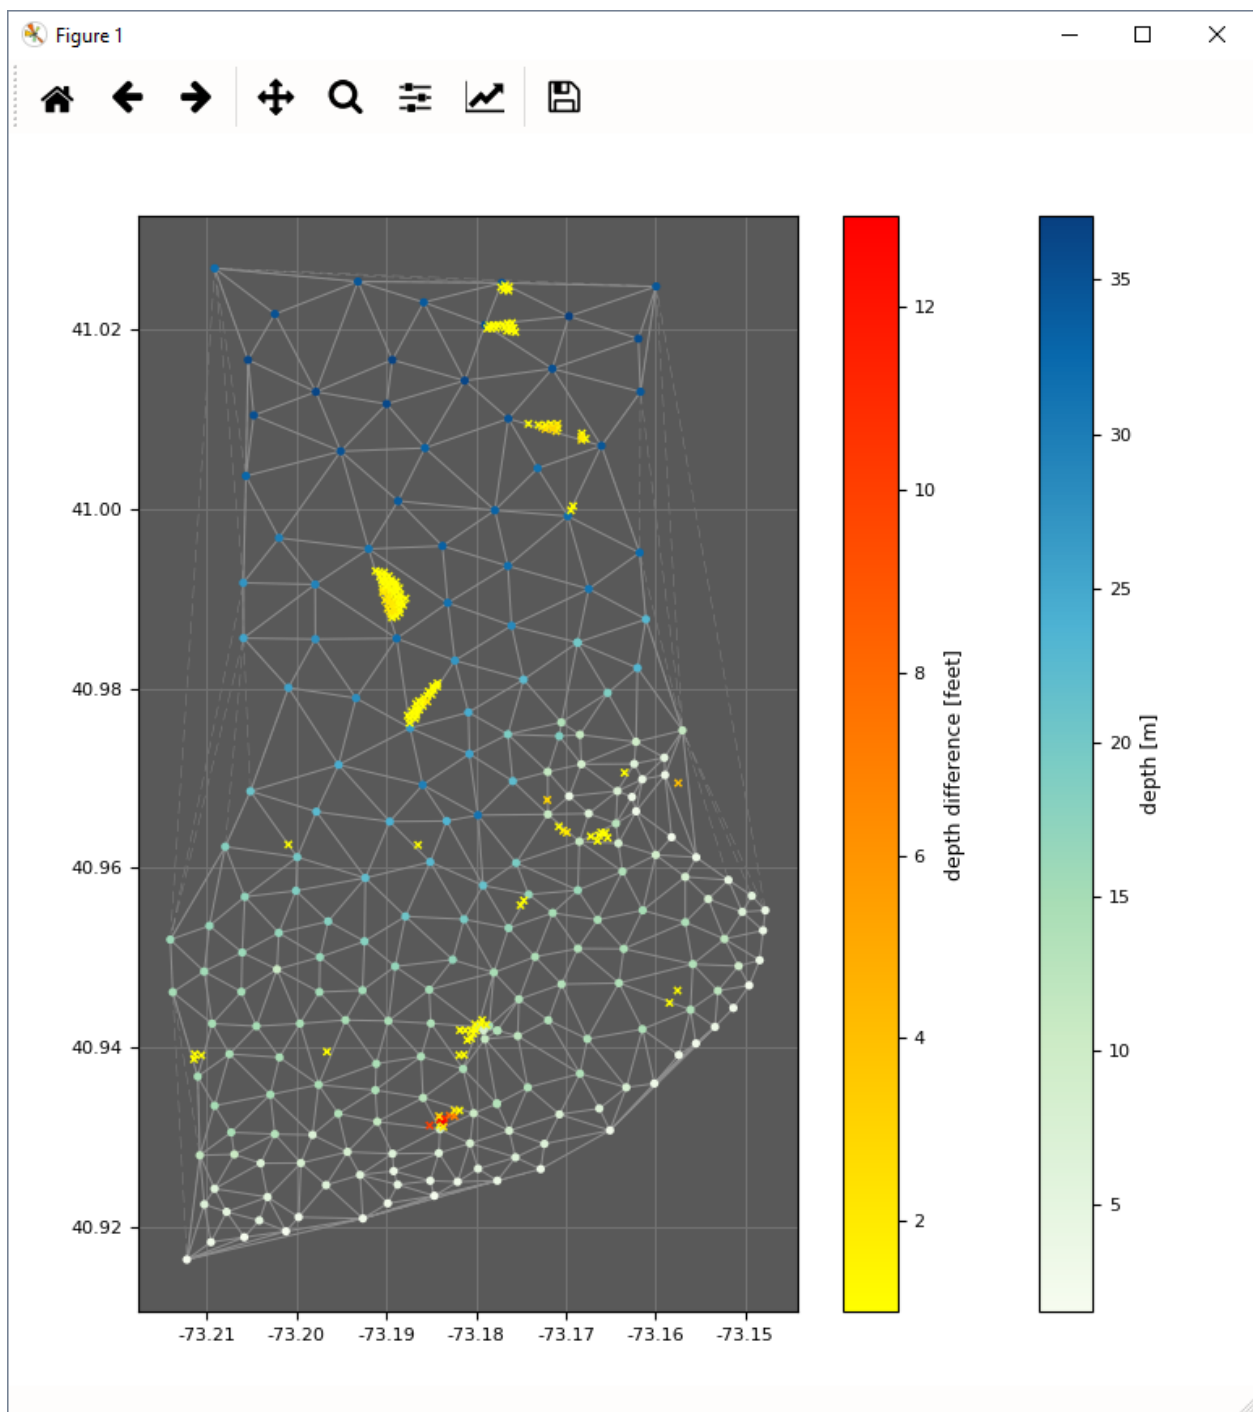

Fig. 2.68: Triangle rule's output display.
- After executing, the results are also shown graphically (Fig. 2.68). Chart-scale soundings are colored by depth, and flagged survey-scale soundings that may not be adequately represented are colored by their discrepancy.